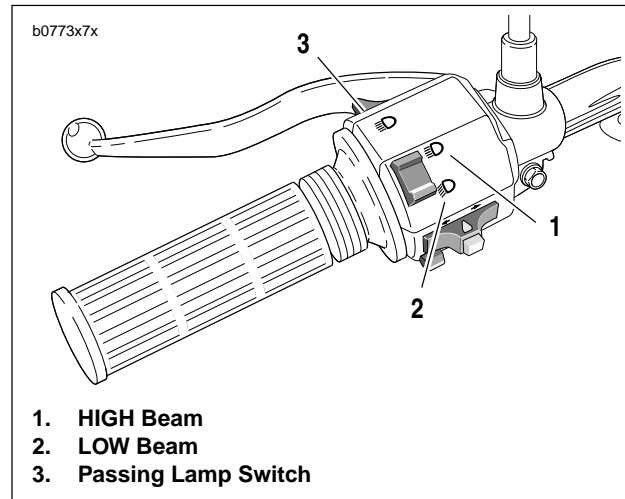

Figure 7-40. Headlamp Controls
- b. See Figure 7-40. Check headlamp LOW (2) and HIGH beam (1) settings.
- c. Set headlamp to LOW beam (2). Press passing lamp switch (3). Headlamp should flash HIGH beam for as long as the switch is pressed.